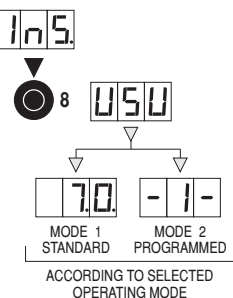

Fig. 10
- Return to the user menu (Fig. 10).